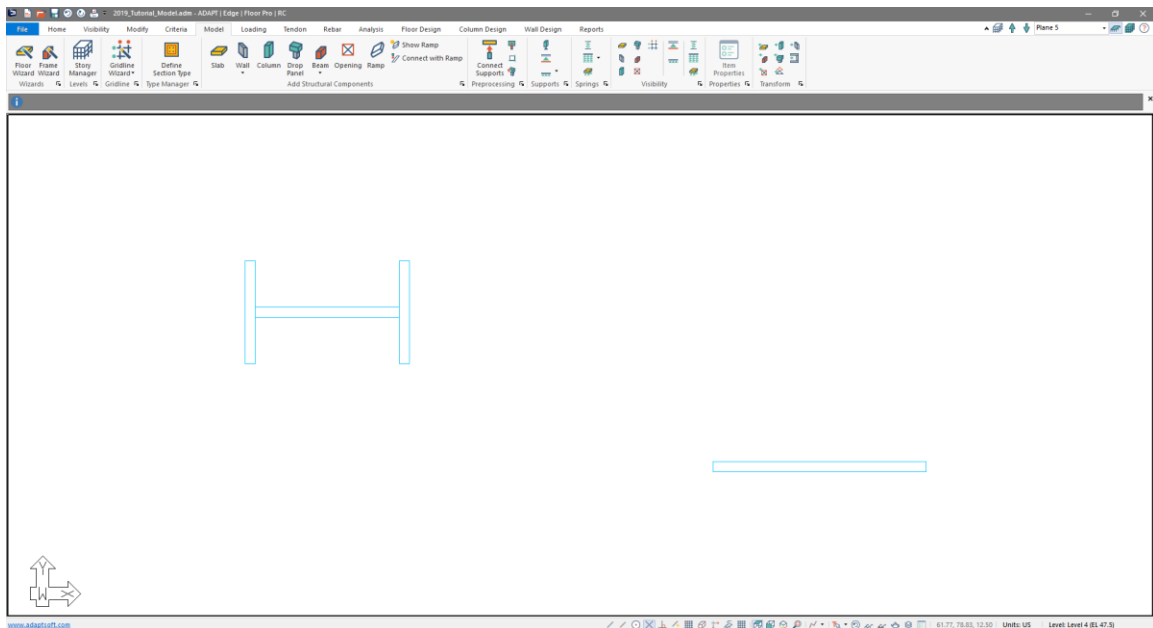

Figure 4-16
- Select the other wall and click **Delete** on your keyboard. After doing so we should have our lower walls input as shown in **FIGURE 4-16**.